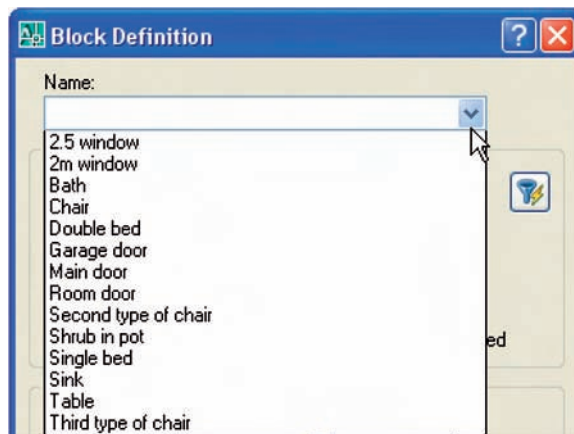

Fig. 9.4 The popup list in the **Name** field showing all blocks saved in the drawing
- 4. Open the **Block Definition** dialog again and click the arrow on the right of the **Name** field. The blocks saved in the drawing appear in a popup list (Fig. 9.4).